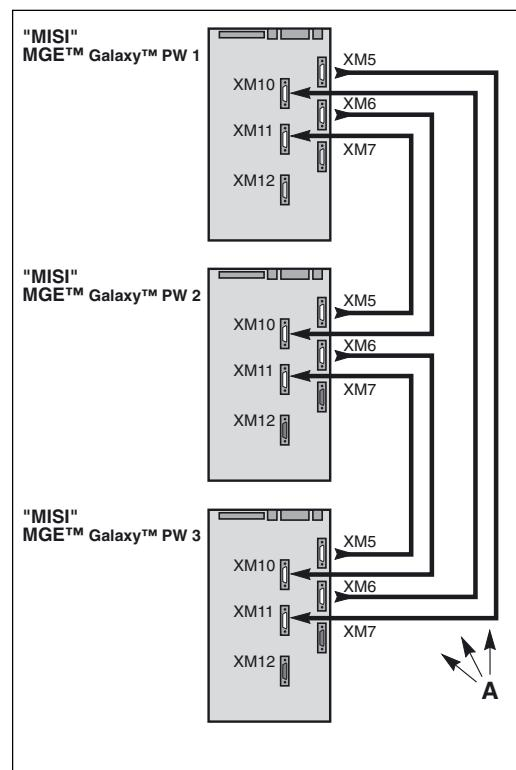

Fig. 29
- situation with three parallel UPS units: see figure 29;